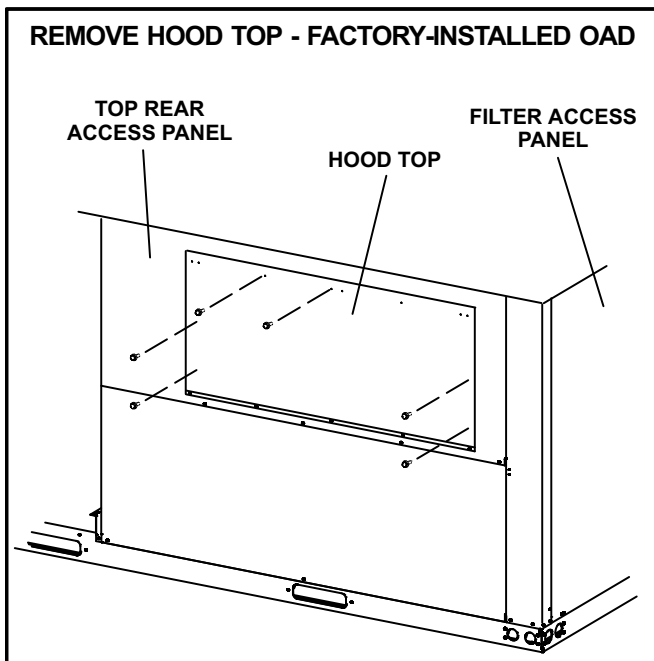

FIGURE 2
- 2- If damper is factory-installed, remove six screws securing hood top to access panel. See figure 2. Retain hood top and go to the *Outdoor Air Hood* section.
- 4- Remove and retain sheet metal screws securing top rear access panel to unit. Discard access panel. See figure 2.
- 2- If manual damper is factory-installed, remove six screws securing hood top to access panel. See figure 2. Retain hood top. Go to step 6-.